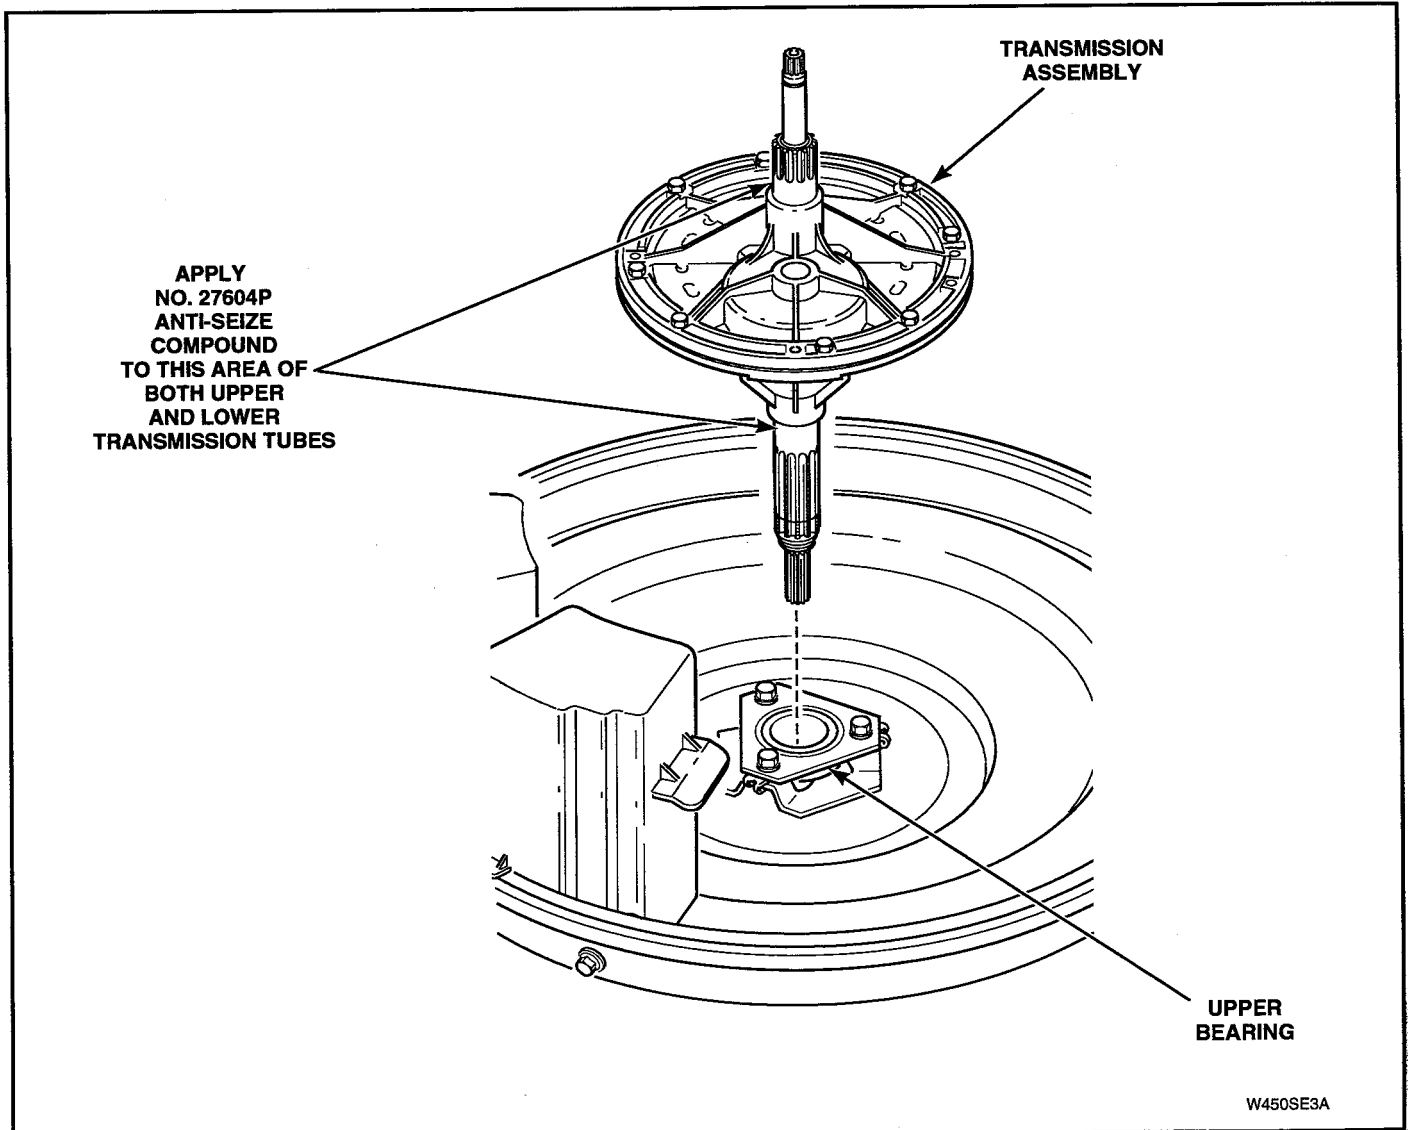

Figure 5-37
NOTE: When installing lower bearing, weldment assembly and brake assembly, apply No. 27604P Anti-Seize Compound to area of transmission tube that will be contacting bearing. See Figure 5-37.
IMPORTANT: When replacing or reinstalling transmission assembly, it is important that No. 27604P Anti-Seize Compound be applied to area of the transmission tubes where they will be contacting upper and lower bearings. See Figure 5-37.
- q. Apply Anti-Seize Compound, No. 27604P, to smooth area of both transmission tubes that will be contacting upper and lower bearings. See Figure 5-37.